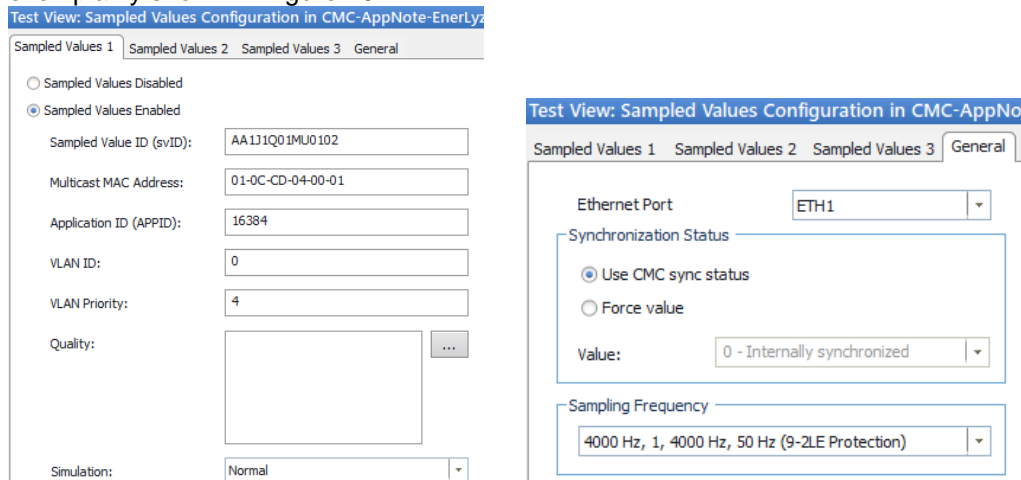

Figure 18: Sampled Values configuration of "test" CMC; left: configuration of stream, right: general configuration.
4. Insert the Test Universe module *Sampled Values Configuration* to the test document and set it up, as exemplarily shown in Figure 18: